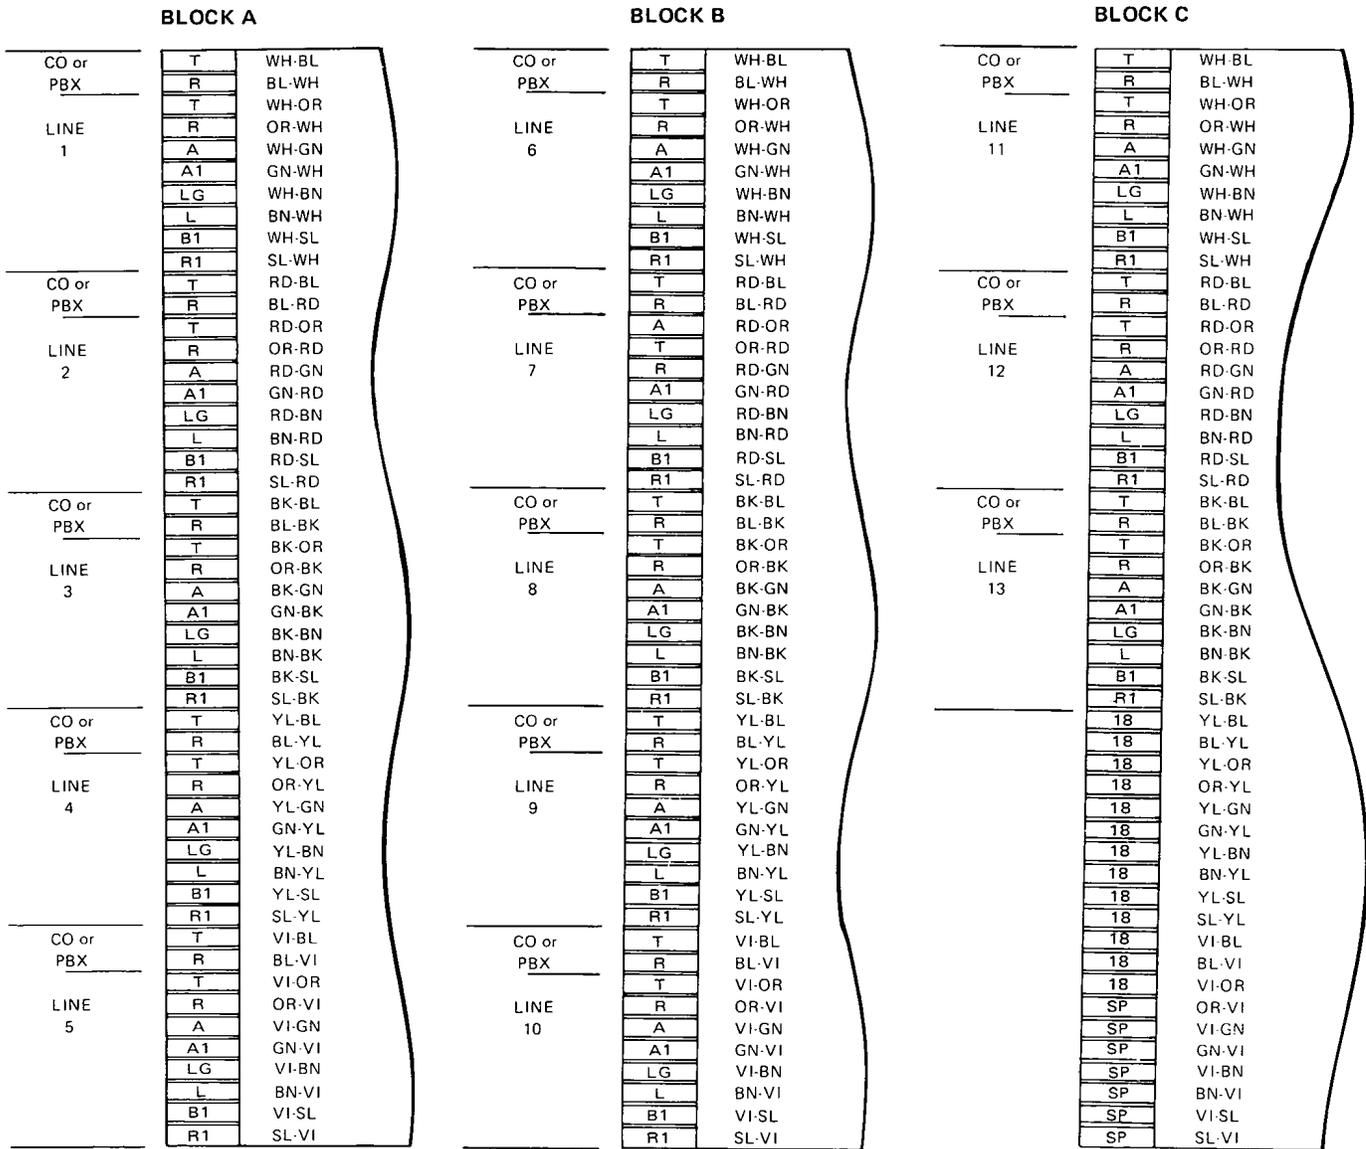

Figure 3: Arrangement of Key System Connecting Blocks
**3.04** On the MDF (main distributing frame) or equivalent, mount three 25-pair connecting blocks. Label the blocks A, B, and C. Label the terminals on each block as shown in Figure 3.